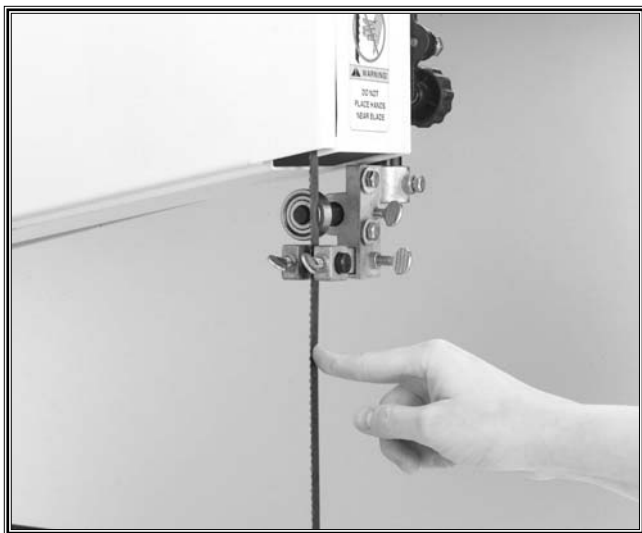

Figure 31. Checking blade deflection.
2. Tighten the blade so that it deflects approximately $\frac{1}{4}$ " with moderate pressure with your finger. **See Figure 31.**